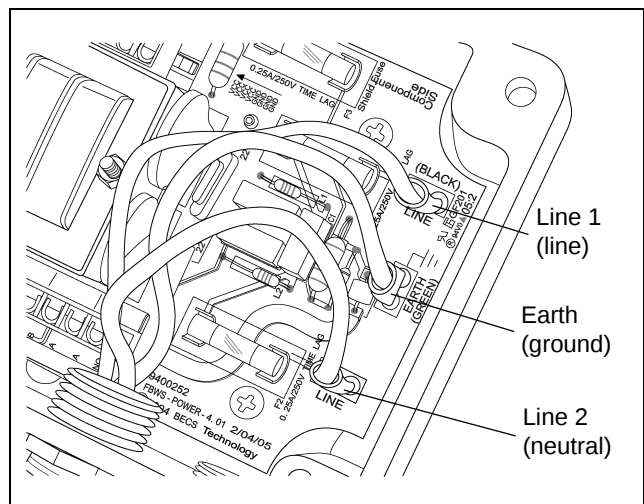

Figure 5J Power Connections
- b. Place line wire (black) onto line 1, ground wire (green) onto earth, and neutral wire (tan or white) onto line 2. (See Figure 5J.)